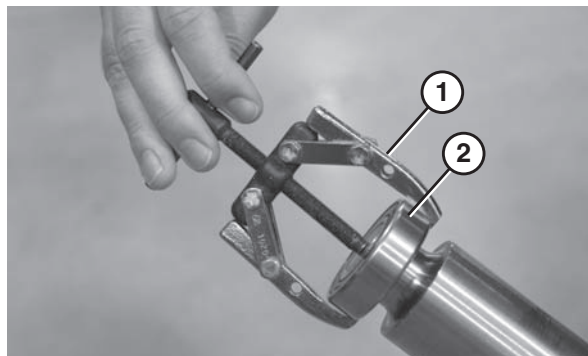

Figure 91
2. Using a bearing removal tool (**Figure 91, item 1**), remove the bearing (**Figure 91, item 2**).